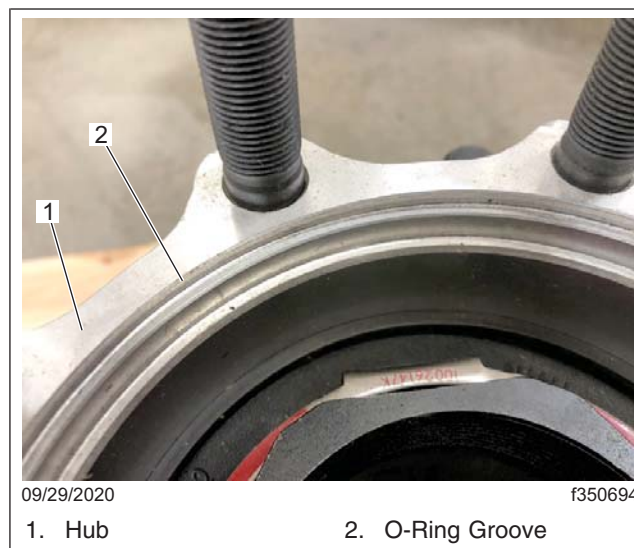

Fig. 1, O-Ring Groove Location
4. Locate the O-ring groove at the end of the hub. See Fig. 1.